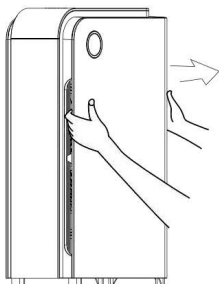

Fig. 1
2. Grip the front panel (1) with both hands. Release the top edge of the front panel from the magnetic latches with a gentle and firm motion, tilt the front panel open to 45°, and lift the front panel up (Fig. 1).